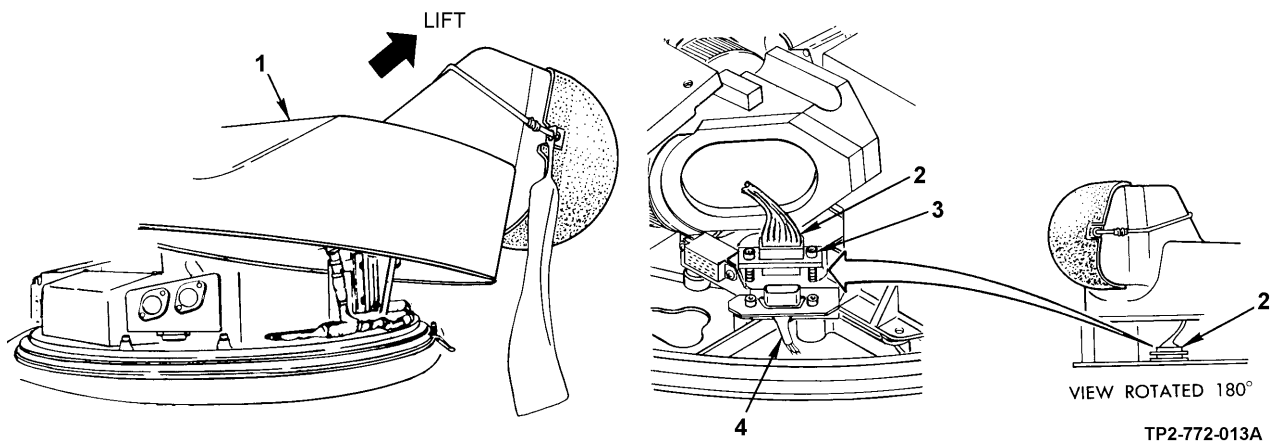

Figure 3-9. Shroud Cable Connector P1 Removal from PNV5 NSA
- (e) Continue lifting shroud (1, figure 3-9) along a sloped path until shroud clears NSA elevation mirror assembly, then support shroud so that it is clear of cable connector P1 (2).